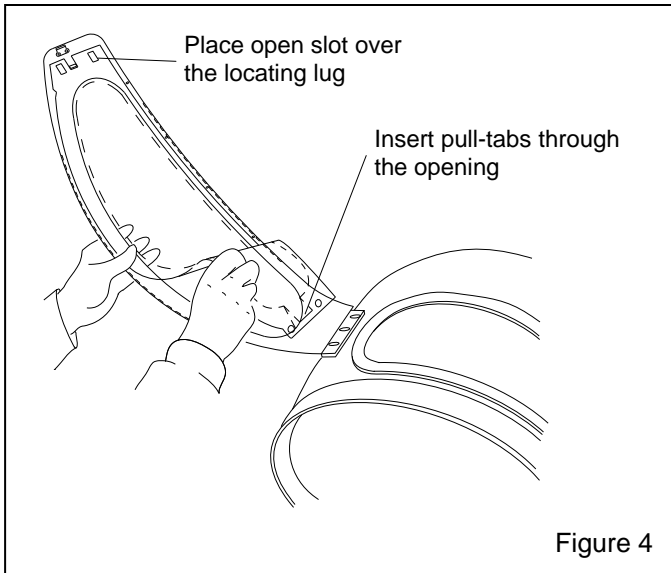

Figure 4
9.1 Lens Options and Replacement Procedures Refer to Figure 4
opened window frame so the straight edge is toward the top of the frame, and the **pull-tabs are at the hinged end**, as shown in Figure 4.